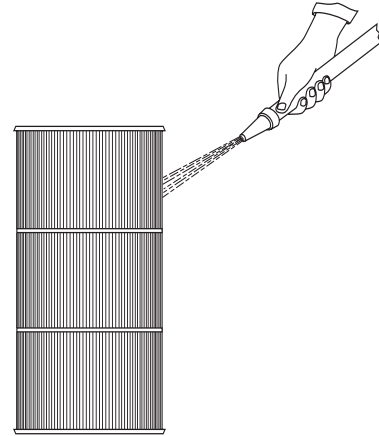

Figure 3 - Hose down elements thoroughly.
6. See Figure 3 for clamp tightening sequence. Tighten all clamp knobs securely hand tight.